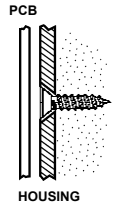

Figure 3: Mounting Screw Position
8. Mount the back cover of the transmitter to the wall using two screws. Use ISO 7050 (ST3.5 x 22) or similar countersunk screws so that the screw head will not touch the PCB – see *Figure 3*.